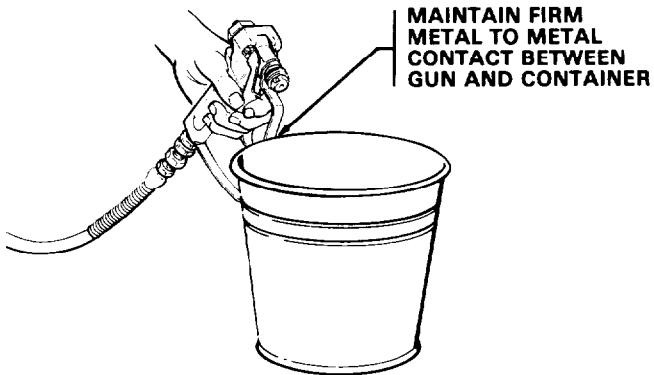

Fig. 4
- f. Hold a metal part of the gun firmly against and aimed into a metal waste container. See Fig. 4. Squeeze the trigger and hold it open, turn the ON/OFF switch to ON, and slowly increase the pressure setting until the sprayer starts. Keep the gun triggered until all air is forced out of the system and the paint flows freely from the gun. Release the trigger and engage the safety.